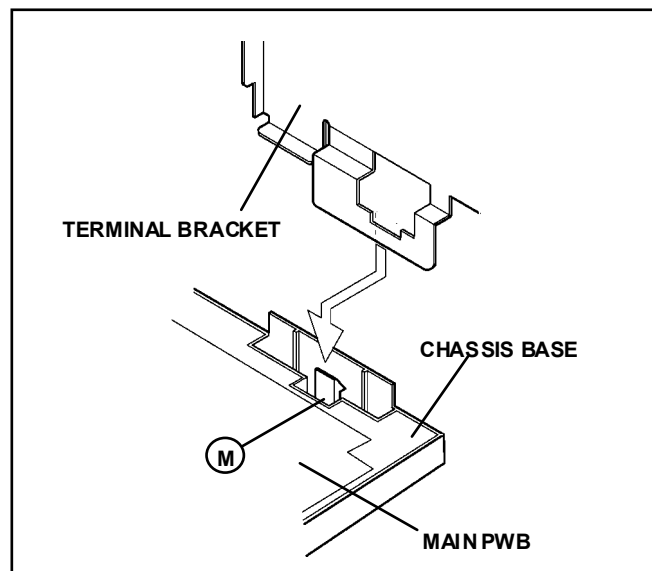

Fig.3
- 3. As shown in Fig.3, raise the claw marked (M) positioned back side of the chassis base, and lift the terminal bracket from the chassis base.